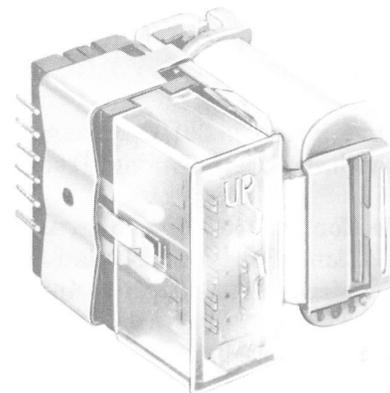
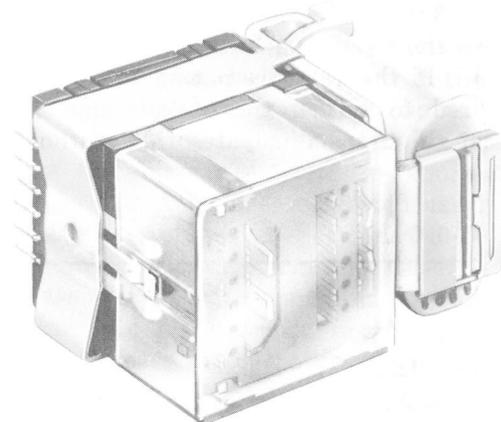

Fig. 1—BL-Type Relay, General View
Fig. 2—BM-Type Relay, General View
1.04 The BL-type relay (Fig. 1) has a 6-position contact arrangement. The BM-type relay (Fig. 2) has a 12-position contact arrangement.